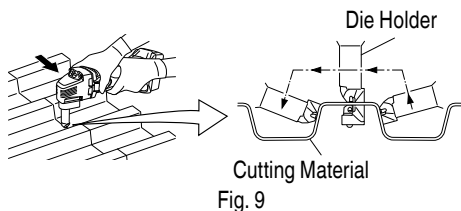

Fig. 9
- (2) Grip the machine firmly with both hands as shown in Fig. 9, align with the shape of the trapezoidal plate, push the machine forward until the die holder is at right angles as shown in Fig. 9 and make the cut.